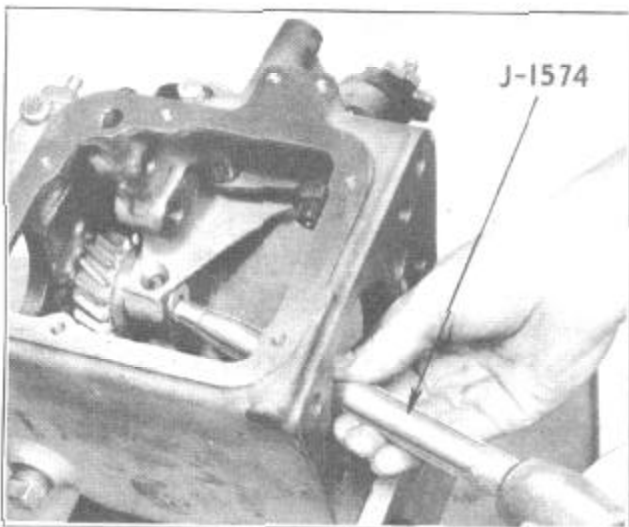

FIGURE 13
- 20. Working through mainshaft bearing hole in front face of case drive-out reverse idler gear shaft with Driver 1-1574, Figure 13. When shaft is driven all the way out, lift reverse idler gear from case.